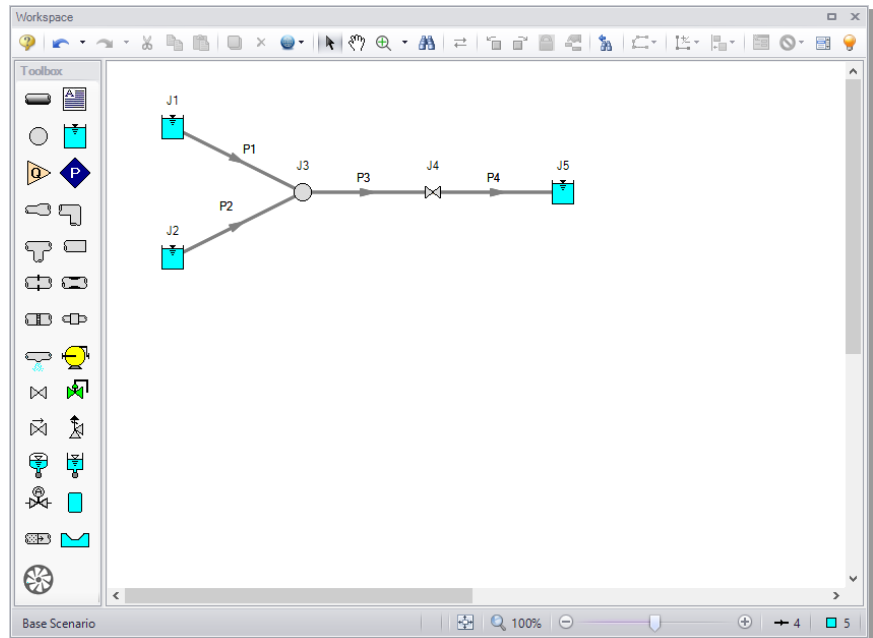

Figure 2.9 Valve closure model with all pipes and junctions placed
- **Activate the Pipe Drawing Tool again**, position the mouse pointer on the J2 Reservoir, then press and hold the left mouse button. Stretch the pipe across to the J3 Branch, and then release the mouse button. Continue drawing Pipes P3 and P4 as indicated in Figure 2.9. After all the pipes are drawn, all the objects in the model are graphically connected. Save the model again.